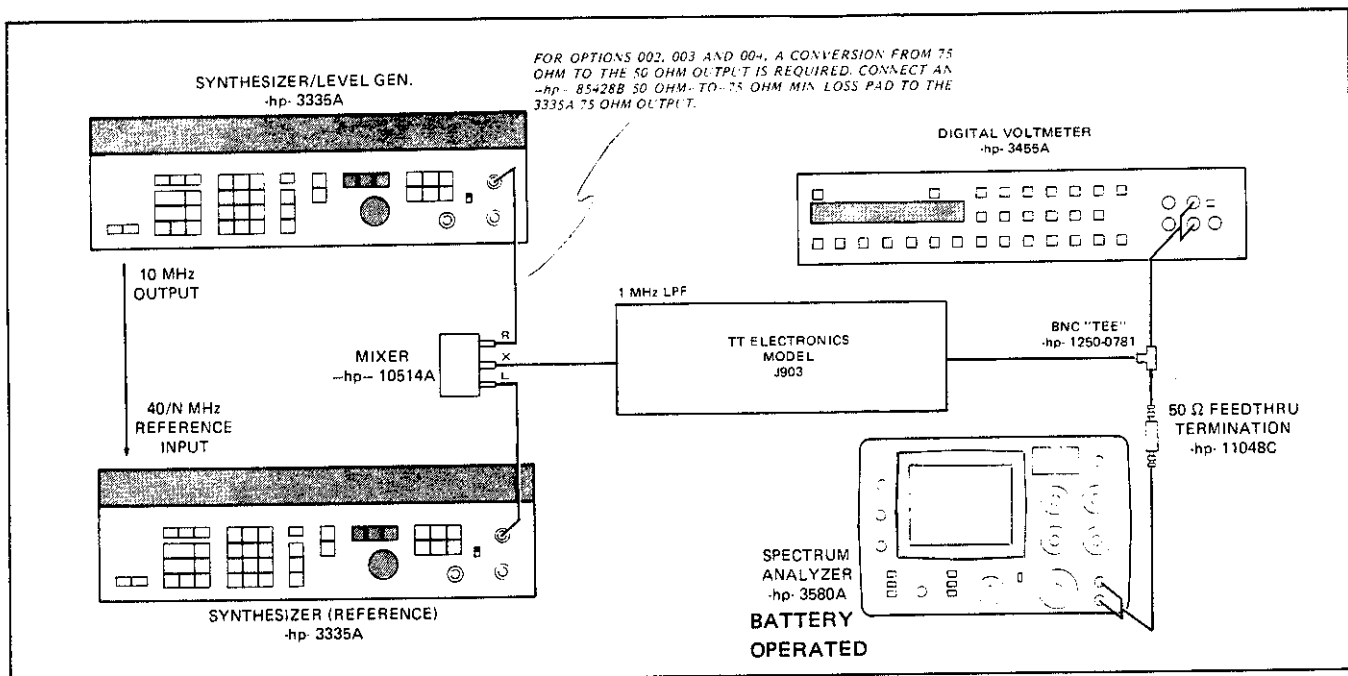

Figure 4-3. Spurious Response Test (Close-In).
1. Connect the test set-up as shown in Figure 4-3.